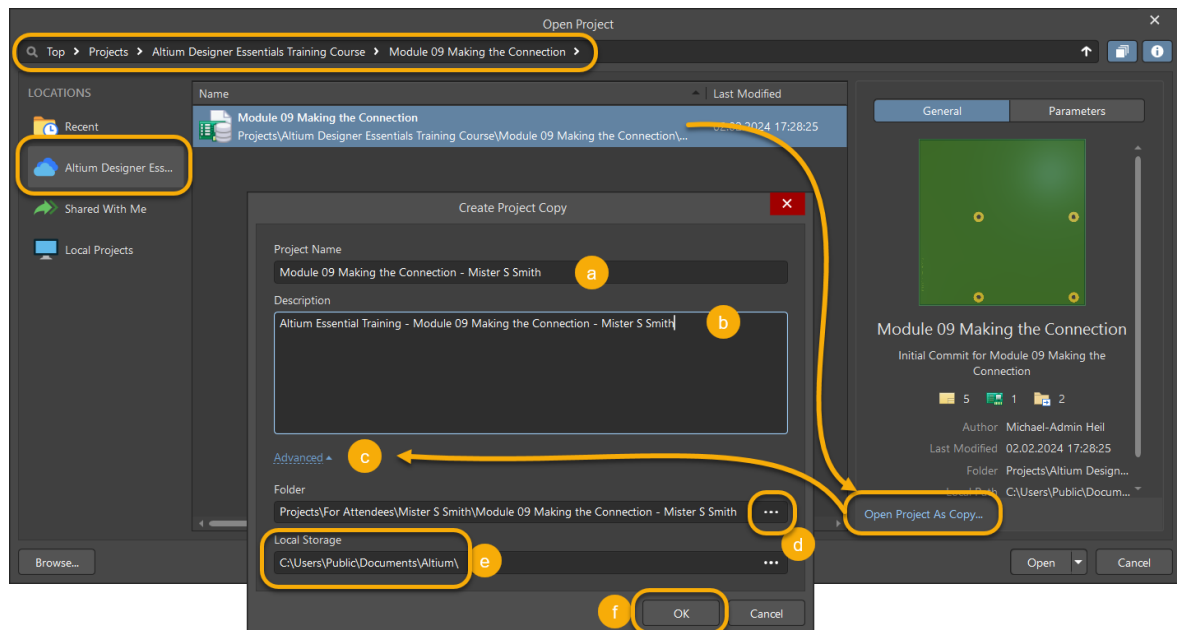
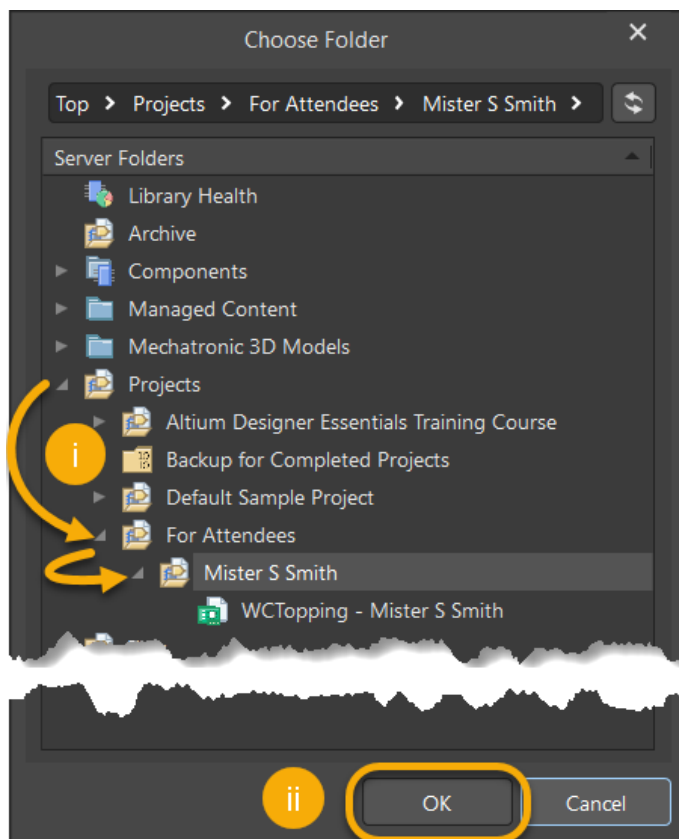

Figure 1. Copy existing Training Project
Figure 2. Step d - Choose Folder dialog
- d) Select the Ellipsis Button **...**, as shown in Figure 1, to open the *Choose Folder* dialog; as shown in Figure 2